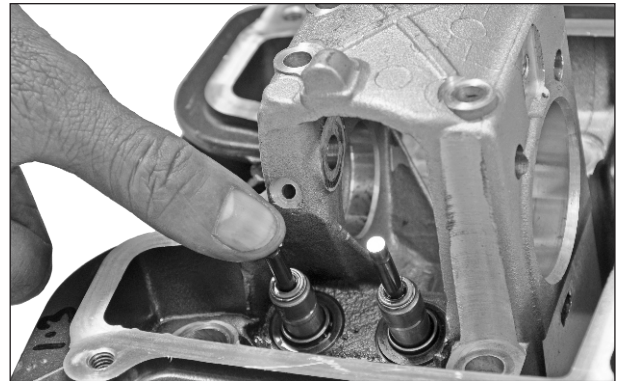

Fig. 3.52
- Gently push down the valves from the top and remove them from the combustion chamber side. (Fig. 3.52)